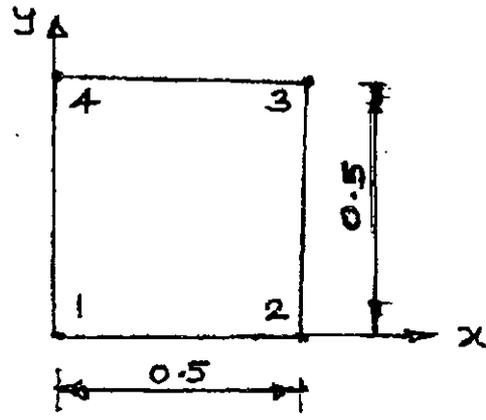

Fig.3
12. (a) If the nodal displacements of the rectangular element shown in Fig.3 are $u_1 = 0.217$, $u_3 = 0.1870$, $u_2 = u_4 = 0.2232$. Compute u , $\partial u/\partial x$ and $\partial u/\partial y$ at the point $(x, y) = (0.375, 0.375)$.